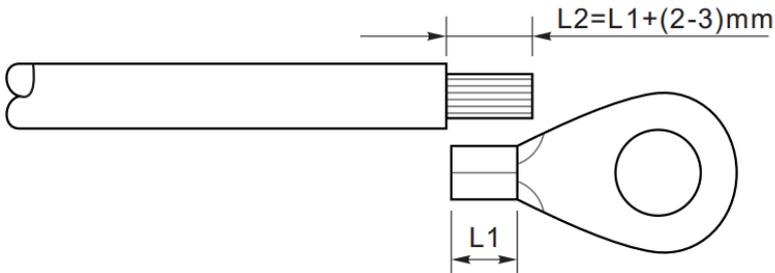

Figure 4-2 Preparing a ground cable (1)
1. Remove the insulation layer with an appropriate length using a wire stripper, as shown in Figure 4-2.